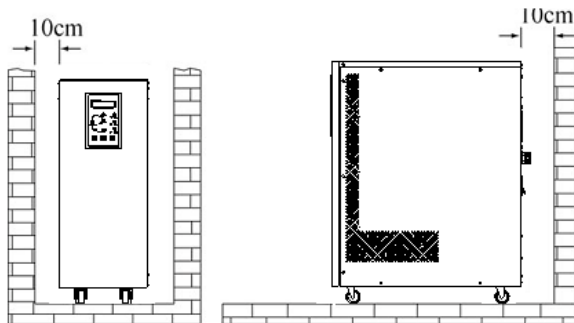

Figure 5
2. Place the UPS in a room where there is good ventilation. The rear panel of UPS and two side faces should be more than 10cm away from the wall. (Figure 5)